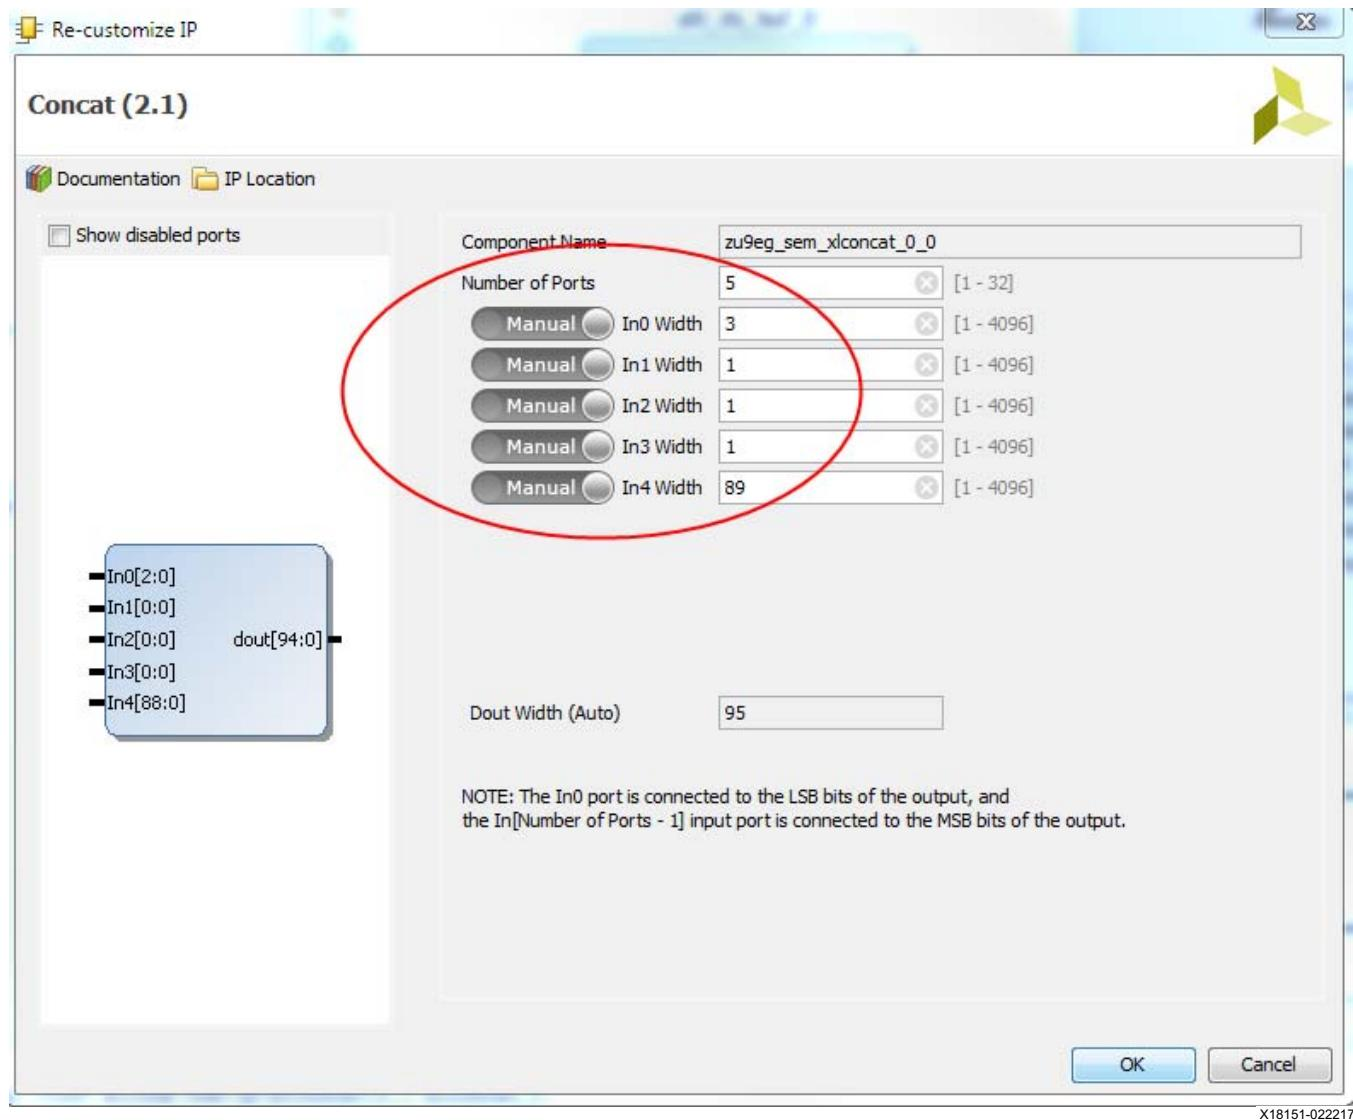

Figure 8: Design 1 - Configure Concat IP - Width 95
- Configure it to have **5** ports. See Figure 8.